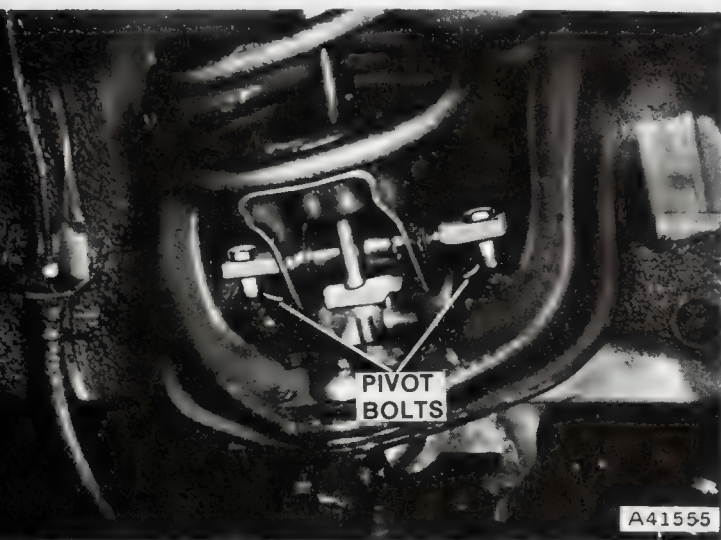

Fig. 2M-19 Aligning Spring Seat Pivot Bolts
(7) Align lower spring seat pivot so that retaining studs will enter upper control arm when spring is in position. Be sure spring lower coil end is properly positioned on seat.
(8) Compress spring until lower spring seat pivot studs can be aligned with holes in upper control arm.
(9) Turn compression nut counterclockwise and carefully guide spring seat pivot bolts into control arm (fig. 2M-19).
(10) Install wheel.
(11) Remove supports and lower car.
(12) Install and tighten lower spring seat pivot retaining nuts to 35 foot-pounds (47.4 Nm) torque.
(13) Remove spring compressor tool.
(14) Install shock absorber and mounting brackets.
- (1) Remove shock absorber and mounting bracket.
- (2) Insert Spring Compressor Tool J-23474 through upper spring seat opening and seat compressor tool ball socket and support (fig. 2M-16).
- (3) Insert compressor tool lower retainer attaching bolts through shock absorber mounting holes in lower spring seat.
(4) Install compressor tool lower retainer and tighten retaining nuts to approximately 5 foot-pounds (6.7 Nm) torque.
(5) Remove lower spring seat pivot retaining nuts, and turn compressor tool compression nut clockwise until spring is compressed approximately 2 inches (5.08 cm).
(6) Raise and support front of car.
(7) Remove wheel.
(8) Remove upper ball joint stud cotter pin and retaining nut.
(9) Remove upper ball joint stud from steering knuckle using tool J-9656 (fig. 2M-14).
(10) Remove control arm inner pivot bolts and control arm from wheelhouse panel.